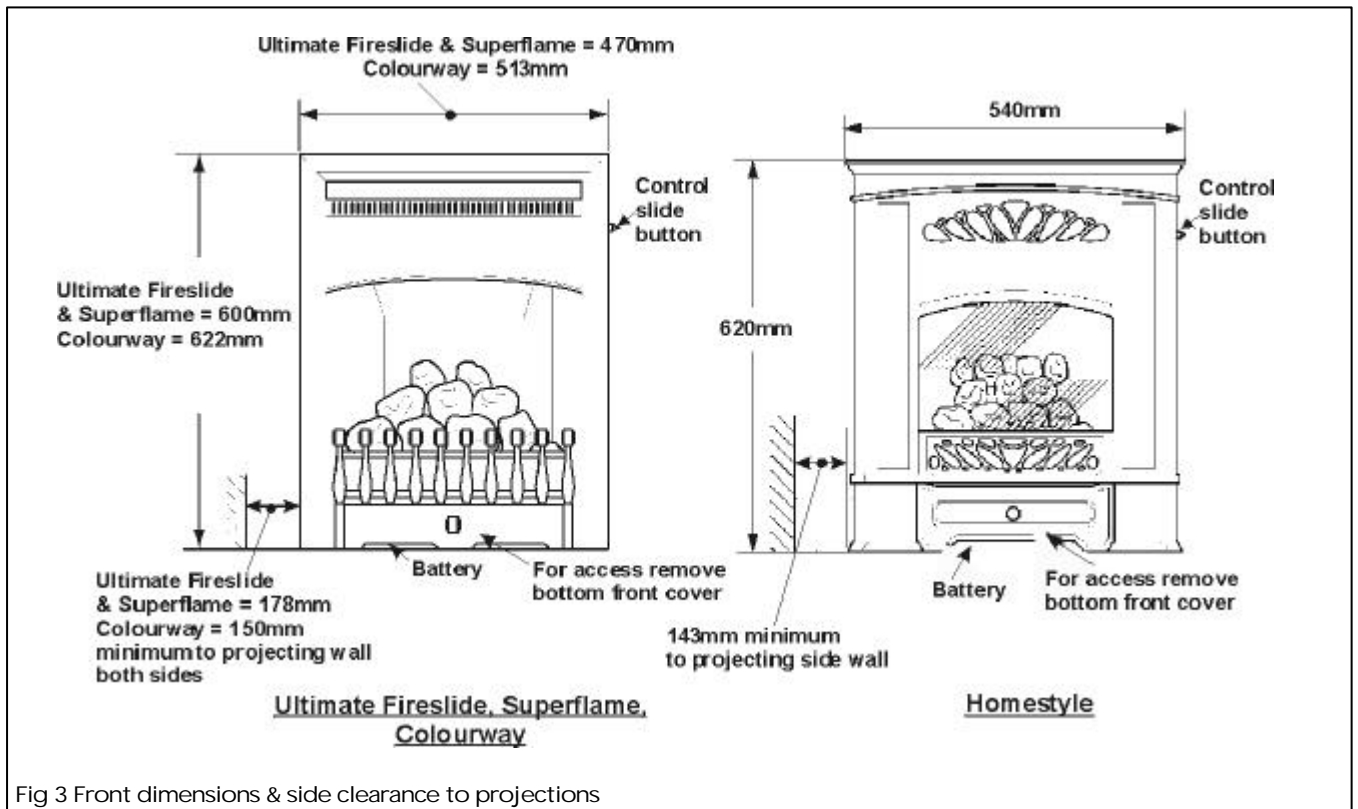

Fig 3 Front dimensions & side clearance to projections
The appliance must not be fitted directly against a combustibile wall. If the appliance is to be fitted against a wall with combustibile cladding, the cladding must be removed from the area covered by the outer surround (see figure 3). We suggest that the actual surround is
2.10 The minimum distance from the outside edge of the front surround to a corner wall or other projection which extends further forward than the front of the appliance at either side is shown in figure 3.
made good if necessary. If the appliance is to be fitted against a wall with combustible cladding, the cladding must be removed from the area covered by the fire front surround (see figure 3). We suggest that the actual fire front is used as a template to mark the area for combustible cladding removal.